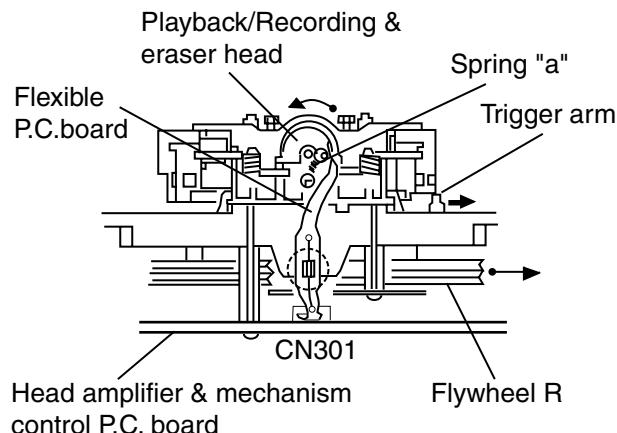
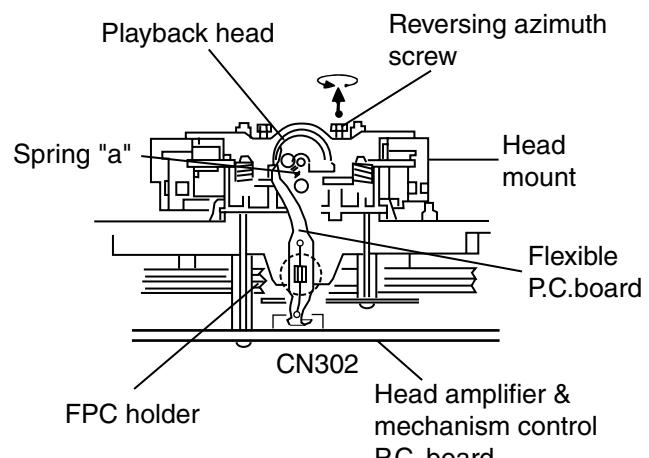

Fig.2 (Mechanism A side)
Fig.3 (Mechanism B side)
2. When the flywheel R is rotated in counterclockwise direction, the playback / recording & eraser head will be turned in counterclockwise direction from the position in Fig.2 to that in Fig.3.